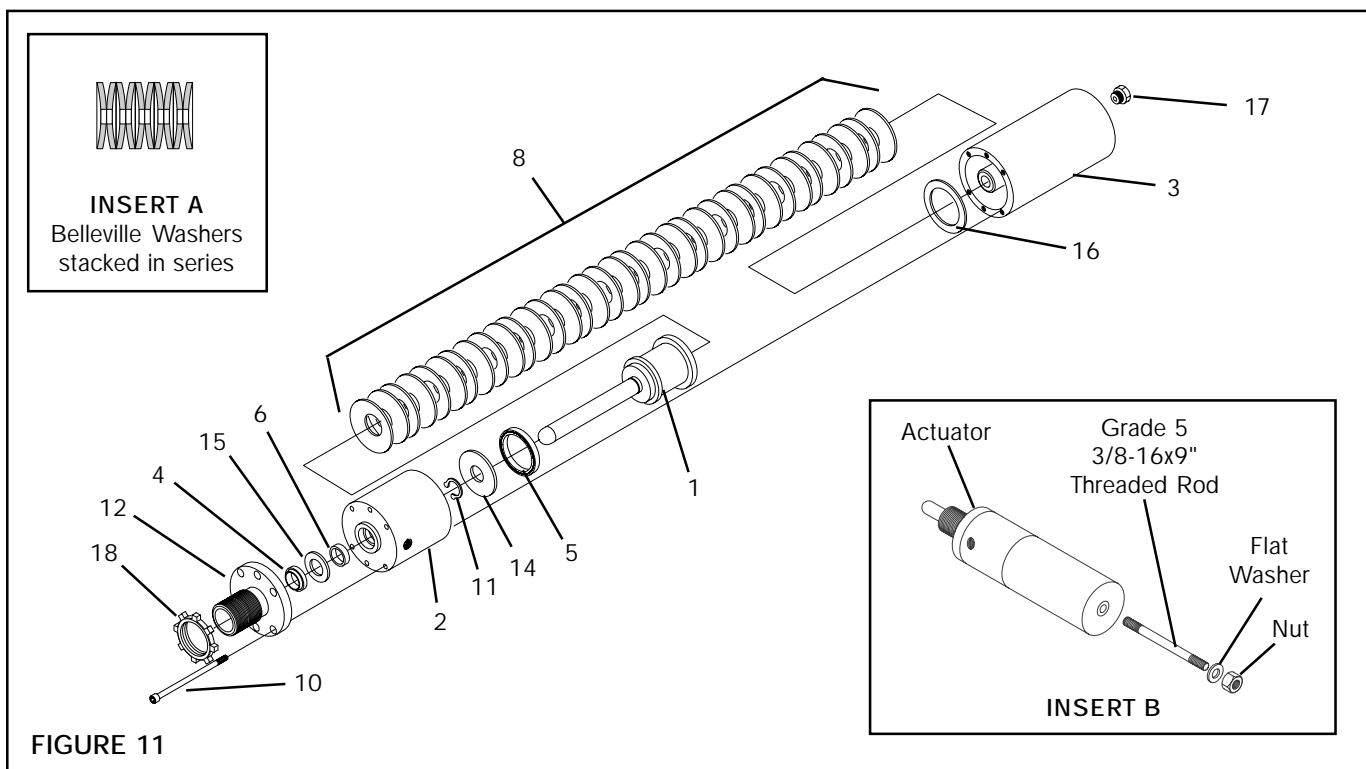

FIGURE 11
NOTE: This BD Caliper Brake is spring engaged and hydraulically disengaged. To release the spring pressure, remove the Vent, then lubricate and insert a Grade 5, 3/8-16 x 9" Threaded Rod into the back of the Actuator; then, using a Flat Washer and Nut, tighten the Nut to release the spring pressure (See Figure 11 and Insert B). A Manual Release Kit (Product No. 933596) containing these items is available from Horton.
3. Remove the six Socket Head Cap Screws (Item 10) (See Figure 11).
5. Separate the Rear Cylinder (Item 3) and the 36 Belleville Disc Springs (Item 8) from the front half of the Actuator (See Figure 11).
6. Push the Piston (Item 1) out of the Front Cylinder (Item 2) and Cylinder Head (Item 12) (See Figure 11).
7. Separate the Cylinder Head (Item 12) from the Front Cylinder (Item 2) and remove the old Wiper Seal (Item 4) (See Figure 11).
9. Remove the Small Washer (Item 15) and old Rod Seal (Item 6) from the Front Cylinder (Item 2) (See Figure 11).
10. Press a new Rod Seal (Item 6) into the Front Cylinder (Item 2) (See Figure 11).
11. Remove the Retaining Ring (Item 11) from the Piston (Item 1) (See Figure 11).
12. Remove the Large Washer (Item 14) and the old Piston Seal (Item 5) from the Piston (Item 1) (See Figure 11).
15. Remove the Belleville Disc Springs (Item 8) and Thrust Washer (Item 16) from the Rear Cylinder (Item 3) (See Figure 11).
16. Coat the Thrust Washer (Item 16) with grease and slide it into the Rear Cylinder (Item 3) (See Figure 11).
17. Liberally coat the 36 Belleville Disc Springs (Item 8) with grease and stack them in series into the Rear Cylinder (Item 3) (See Figure 11 and Insert A).
18. Place the Small Washer (Item 15) on the Front Cylinder (Item 2); then, place the Cylinder Head (Item 12) onto the Front Cylinder and Small Washer (See Figure 11).
19. Press the Piston (Item 1) into the Front Cylinder and Cylinder Head (See Figure 11).
24. Apply a drop of Loctite® 242 to the threads of four Socket Head Cap Screws (Item 10) and thread them into the Rear Cylinder (See Figure 11).
26. Apply a drop of Loctite® 242 to the threads of the two remaining Socket Head Cap Screws (Item 10) and thread them into the Rear Cylinder (See Figure 11).